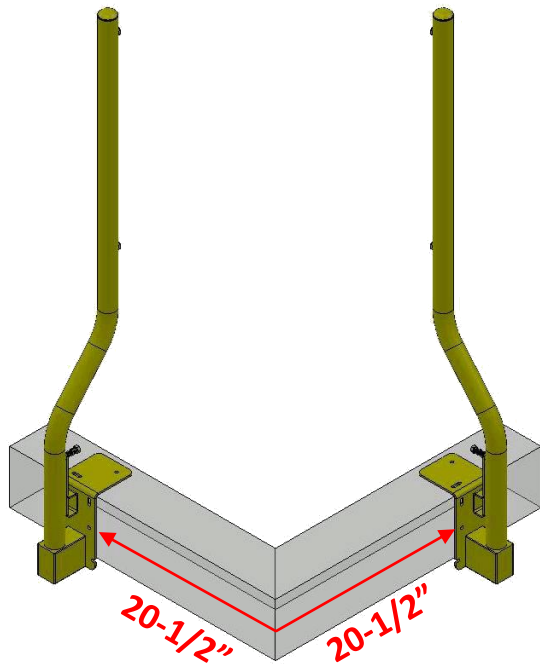
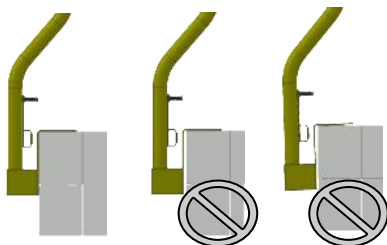
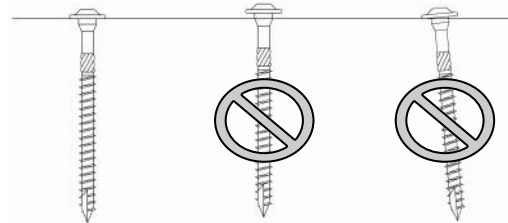
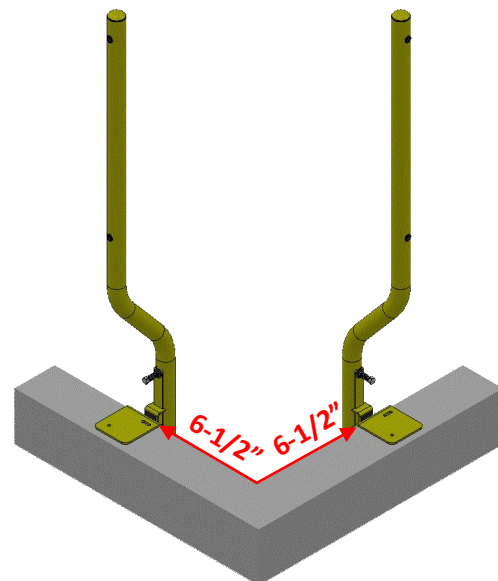

Figure 1.1
Figure 1.2
Figure 1.3
Figure 1.4
STEP 1—Determine the first corner from which work will begin. To ensure proper placement of the corner uprights, place each upright 20-1/2" from the outside corner of the structure (see **Figure 1.1**). Ensure uprights are plumb and the vertical face of the mounting bracket is flush with the substrate (**Figure 1.2**); attach to structure with appropriate fasteners (see **Figure 1.3**). Inside corner placement, see **Figure 1.4**.